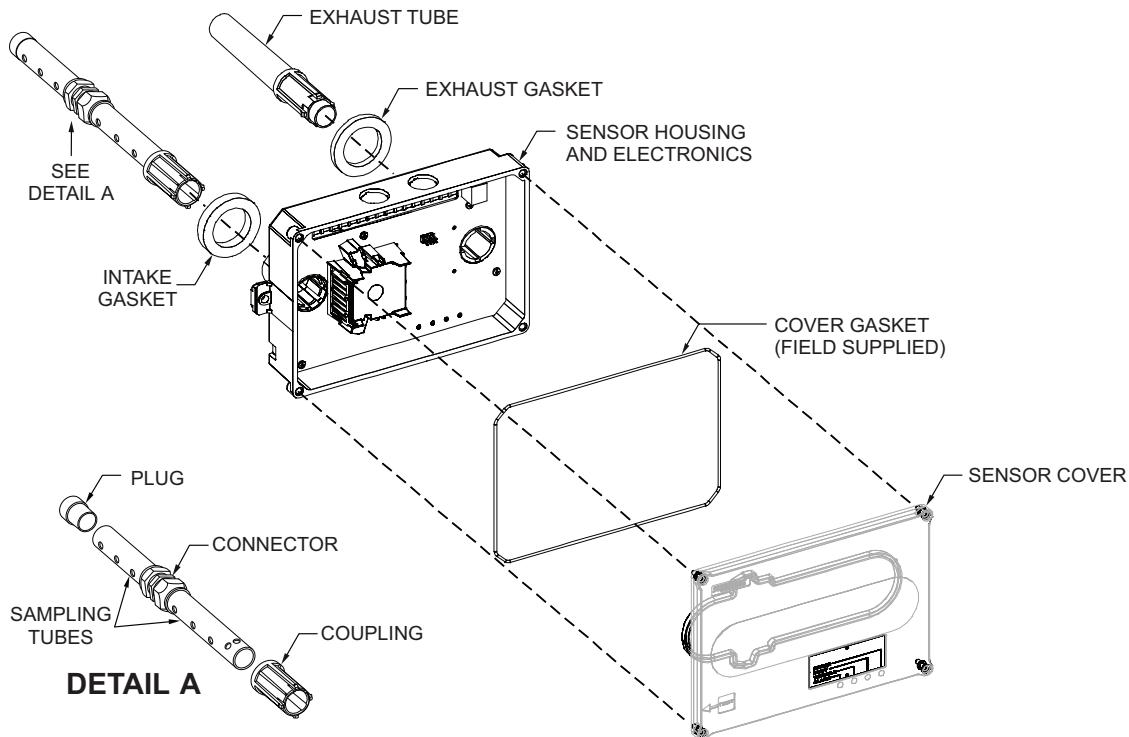

Fig. 10 — Smoke Sensor Exploded View
2. Remove plastic cover from the sensor (see Fig. 10).
3. Connect both pick up tubes (RN20ZT034) using the coupling. Utilizing the intake adapter from the smoke sensor, snap the adapter onto the end of the pick up tube. The small bumps inside the adapter will fit into the pickup tube's two concentric holes on the end of the tube. Plug the other end of the pickup tube with the red cap (see detail A in Fig. 10).
4. Remove plastic cover from sensor (see Fig. 10).